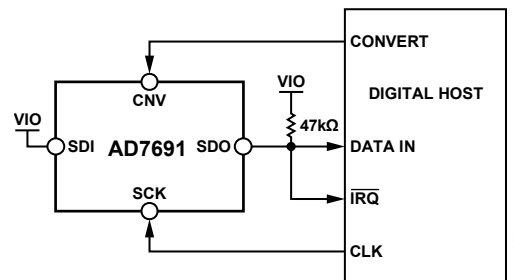
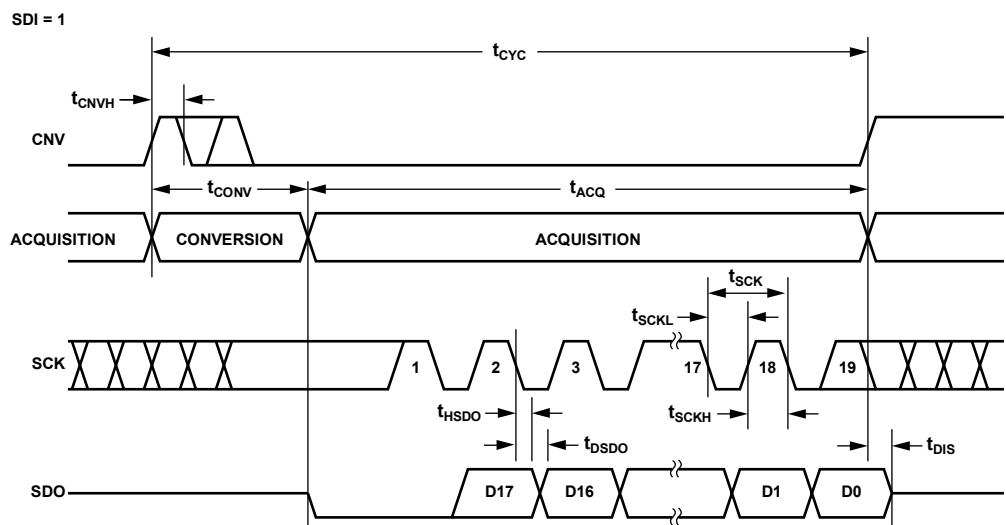
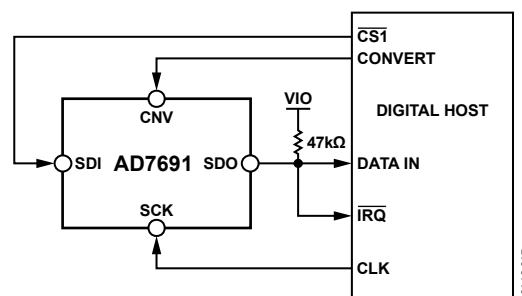
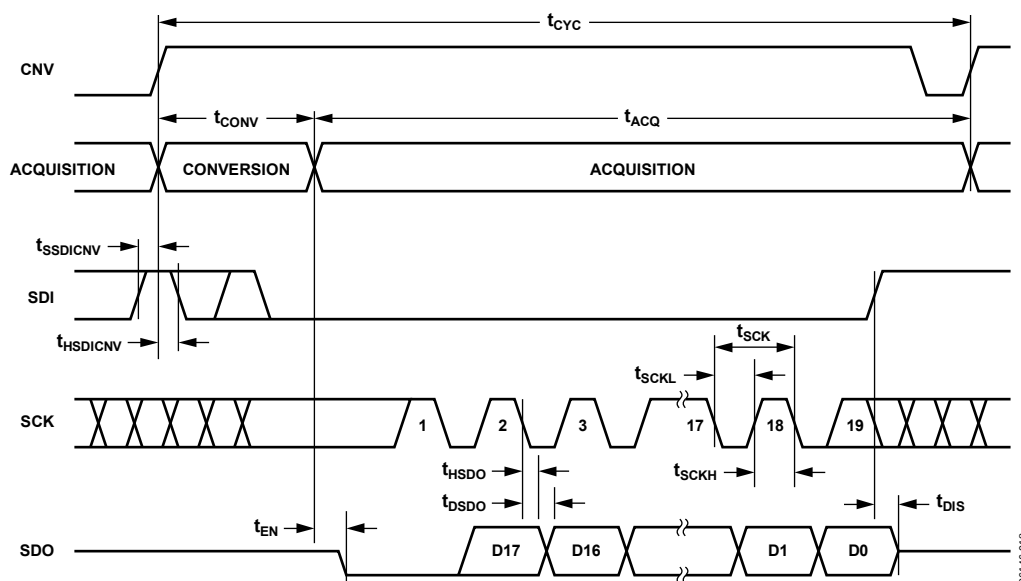

Figure 37. 3-Wire $\overline{\text{CS}}$ Mode with Busy Indicator Connection Diagram (SDI High)
Figure 38. 3-Wire $\overline{\text{CS}}$ Mode with Busy Indicator Serial Interface Timing (SDI High)
Figure 41. 4-Wire $\overline{\text{CS}}$ Mode with Busy Indicator Connection Diagram
Figure 42. 4-Wire $\overline{\text{CS}}$ Mode with Busy Indicator Serial Interface Timing
- In the $\overline{CS}$ mode if CNV or SDI is low when the ADC conversion ends (see Figure 38 and Figure 42).
The connection diagram is shown in Figure 37, and the corresponding timing is given in Figure 38.
The connection diagram is shown in Figure 41, and the corresponding timing is given in Figure 42.